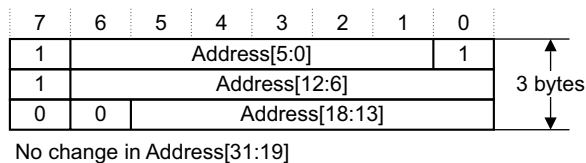

Figure 7-18 Alternative encoding of normal Jazelle branch with no change in address bits [31:19]
- Figure 7-18 on page 7-316 shows the trace packet for a branch in Jazelle state when there is no change in bit [31:19] of the address.